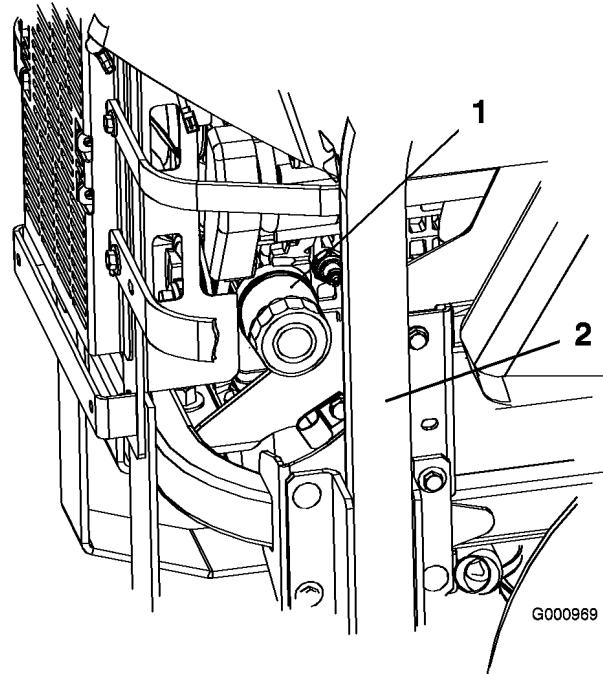
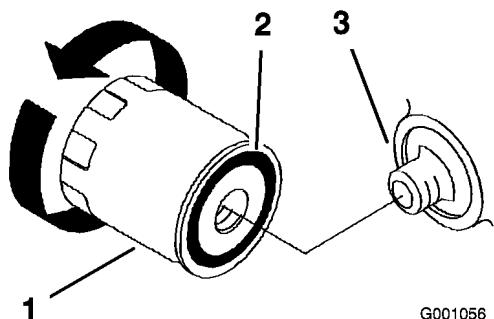

Figure 42
Figure 43
2. Turn the filter counterclockwise to remove it (Figure 42 and Figure 43).